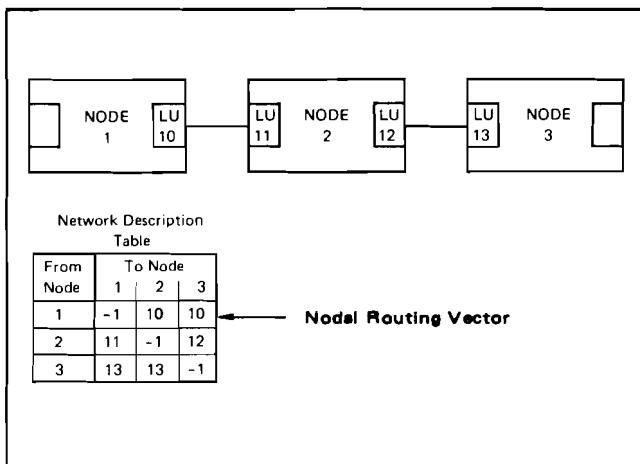

Figure 1. Nodal addressing via Network Description Table
Node numbers for DS/1000 network connections are specified after an RTE operating system has been generated and loaded. A Nodal Routing Vector (NRV), which specifies the logical unit number (LU) through which any DS/1000 transaction goes to get from the local node to the target node, can be generated interactively or read from a Network Description Table (NDT) file at each DS/1000 node. A NDT specifies every connection in the DS/1000 network and consists of a list of the NRV's which reside in each node. An example is shown in Figure 1.
Using the example of Figure 1, a transaction goes from node 1 to node 2 or node 3 via LU10. At node 2, the DS/1000